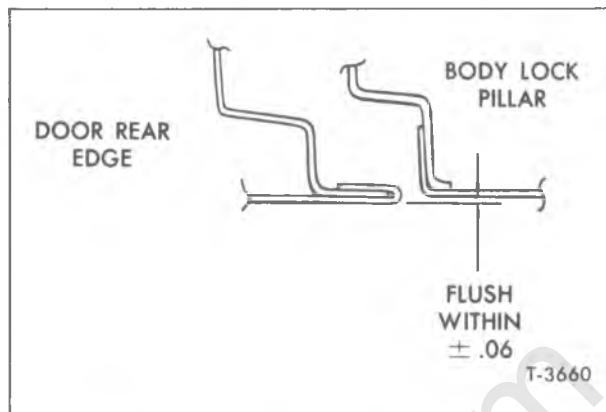

Figure 18—Door Surface Adjustment (at Striker)
3. As an aid to striker adjustment, outline the striker in pencil or crayon for use as a base for adjustment. Horizontal slots are provided in the striker plate to position the striker assembly laterally so that the door outer surface is flush with the pillar surface at the door rear edge within 1/16" (fig. 18).
5. As an aid to striker adjustment outline the striker in pencil or crayon for use as a base for adjustment. Horizontal slots are provided in the striker plate to position the striker assembly laterally so that the door outer surface is flush with the pillar surface at the door rear edge within 1/16". Refer to figure 18.